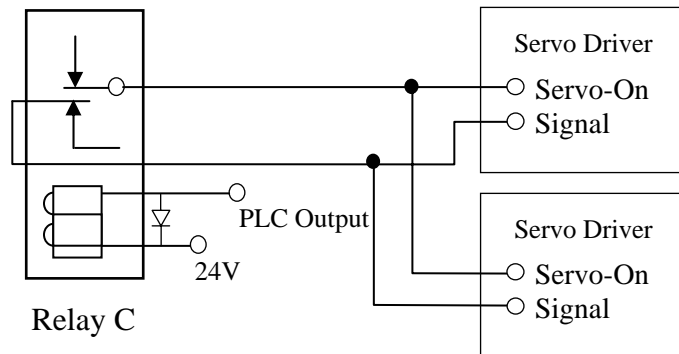

Fig 5-7 Incorrect Connection
3. Generally, Relay C has multiple connecting points for multiple servo. Each servo motor requires independent connecting point. Do NOT connect servo motors in parallel because some servo motors cannot be connected in parallel. See Fig 5-7 and Fig 5-8.